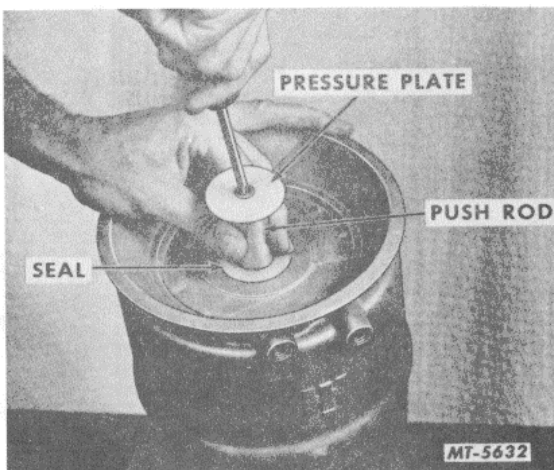

Fig. 10 Removing Pressure Plate.
5. Remove pressure plate from push rod, Fig. 10.
9. Replace pressure plate on end of push rod, Fig. 10. It is recommended that after tightening the screw, a lead BB or a piece of nonacid lead solder be hammered into the screwdriver hole. This will forestall service brake diaphragm damage. Remove any slag so screw face is perfectly smooth.